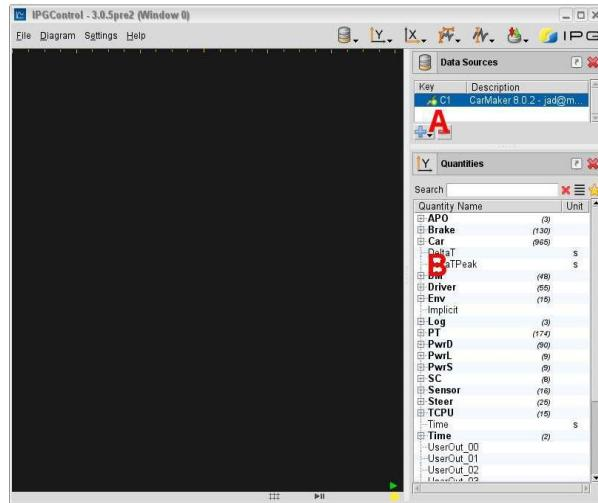
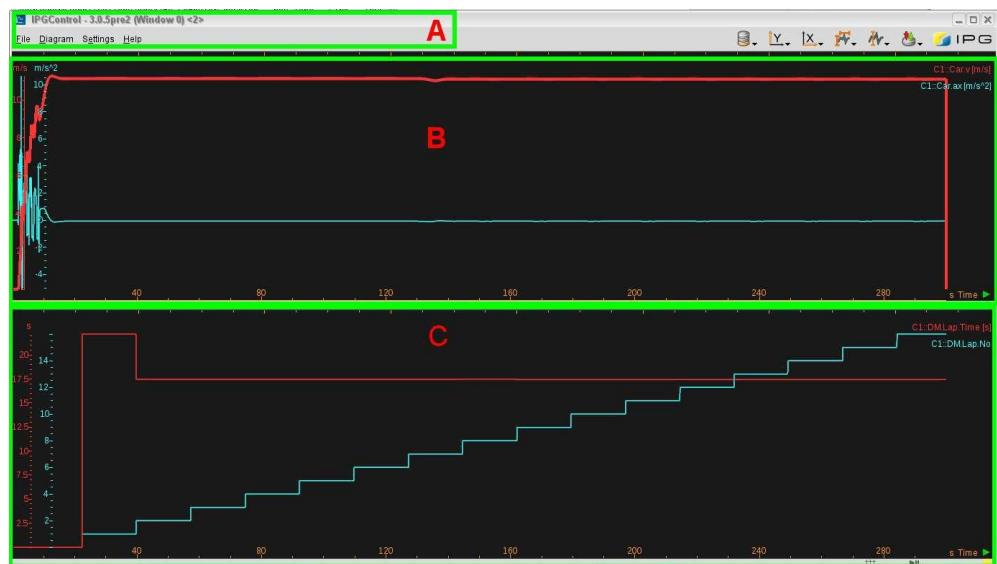

Figure 3.34: IPGControl GUI to select quantities to be plotted in Data Window
Figure 3.35: Data Window:
IPGControl is CarMaker's analysis tool. Various simulation result files can be loaded (Figure 3.34 - section A) consecutively to plot and compare signals. Multiple diagrams can be generated and displayed within a single window - one below the other (Figure 3.35).
- Click in the lower diagram. You can either search in section B/C (see Figure 3.34) and select the UAQ with LMB or by entering its name into the search bar.